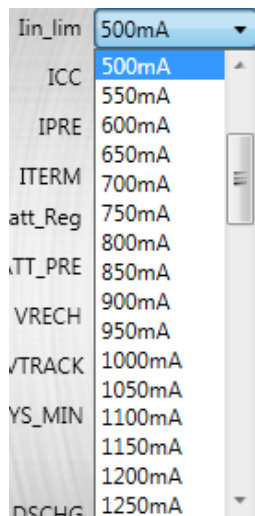

Figure 7: Input Current Limit Setting
- Set the input current limit (see Figure 7). The input current limit ranges between 100mA and 3250mA, and the default value is 500mA. Set it to the value that meets the input source capacity.